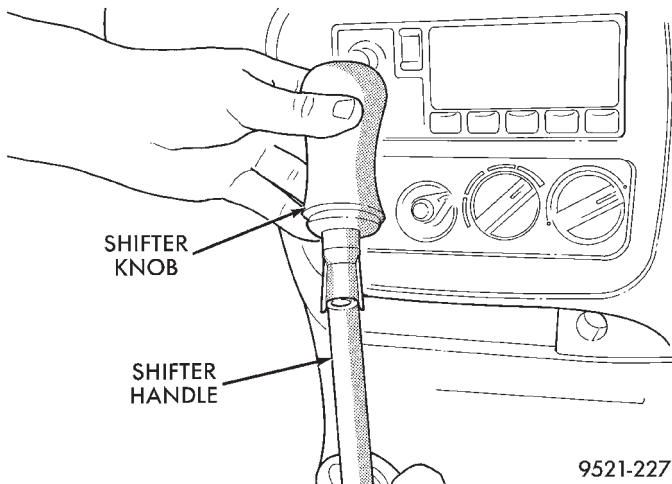

Fig. 146 Gearshift Knob Removal
- Remove the shifter knob from the shifter handle, by pulling the shifter knob straight up (Fig. 146).